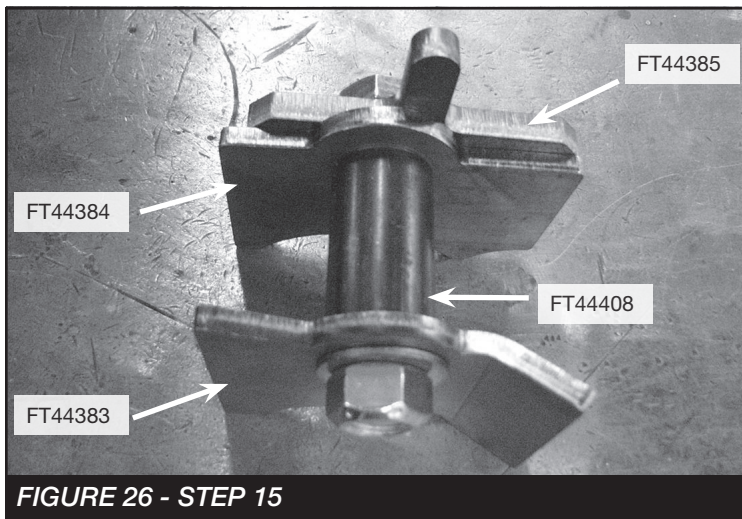

FIGURE 26 - STEP 15
15. Locate the 5/8" x 3-1/4" bolt. Install in the following order: FT44385 (spacing tool), FT44384 (passenger inner gusset), FT44408 (spacing sleeve), FT44383 (passenger outer gusset), washer and nut. **SEE FIGURE 26**